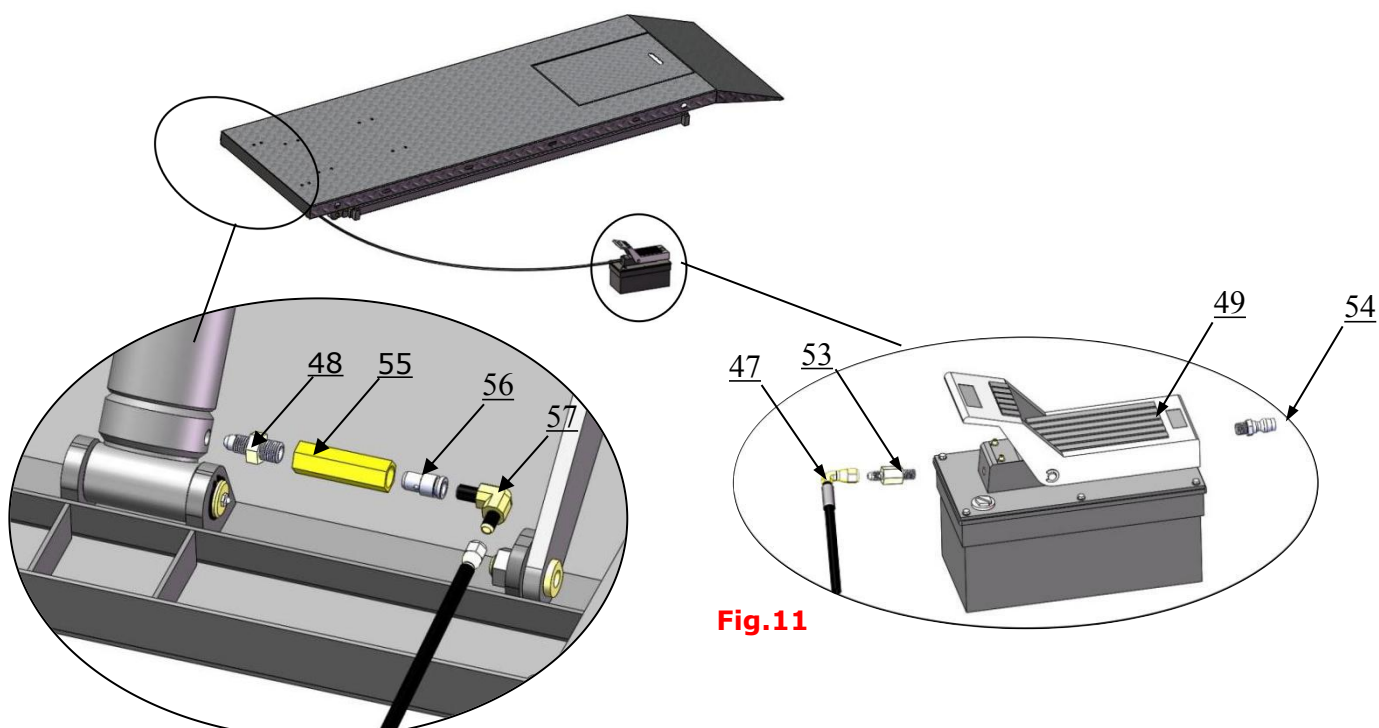

Fig.11
B. Place the lift and control cabinet to the installation site, connect the oil hose and tighten the fitting (see Fig.11)